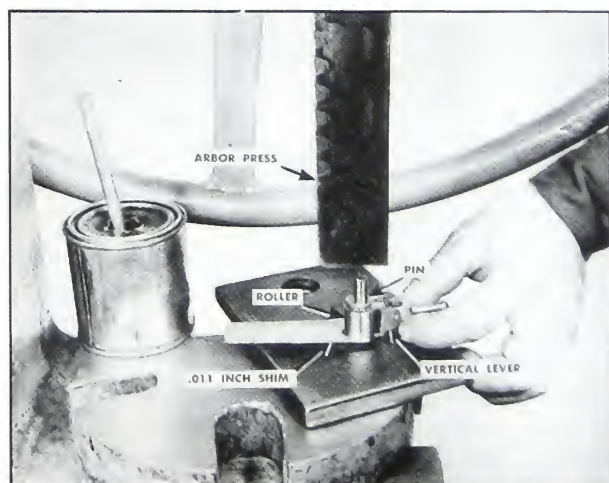

Fig. 5-222. Assembling roller to vertical lever
5. Assemble roller to lever with vertical roller pin. Insert a .011 shim between roller and lever while pressing to maintain proper clearance and prevent distortion. Fig. 5-222. Check roller for free action.